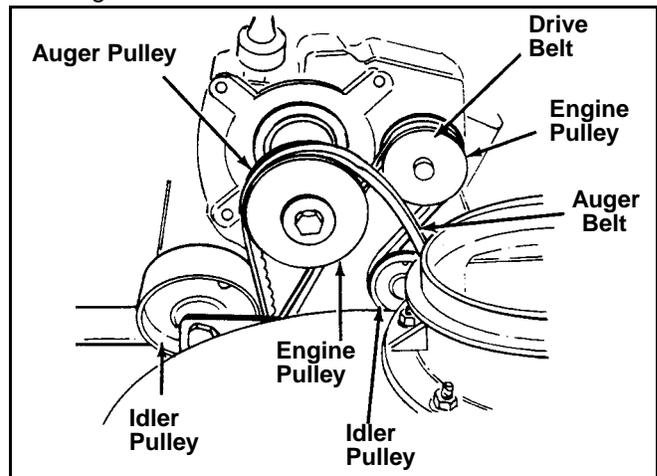

Figure 16
- Roll the belt off the engine pulley. See Figure 16.
- Pull idler pulley up, and lift the belt off the engine pulley and friction wheel disc. See Figure 16.